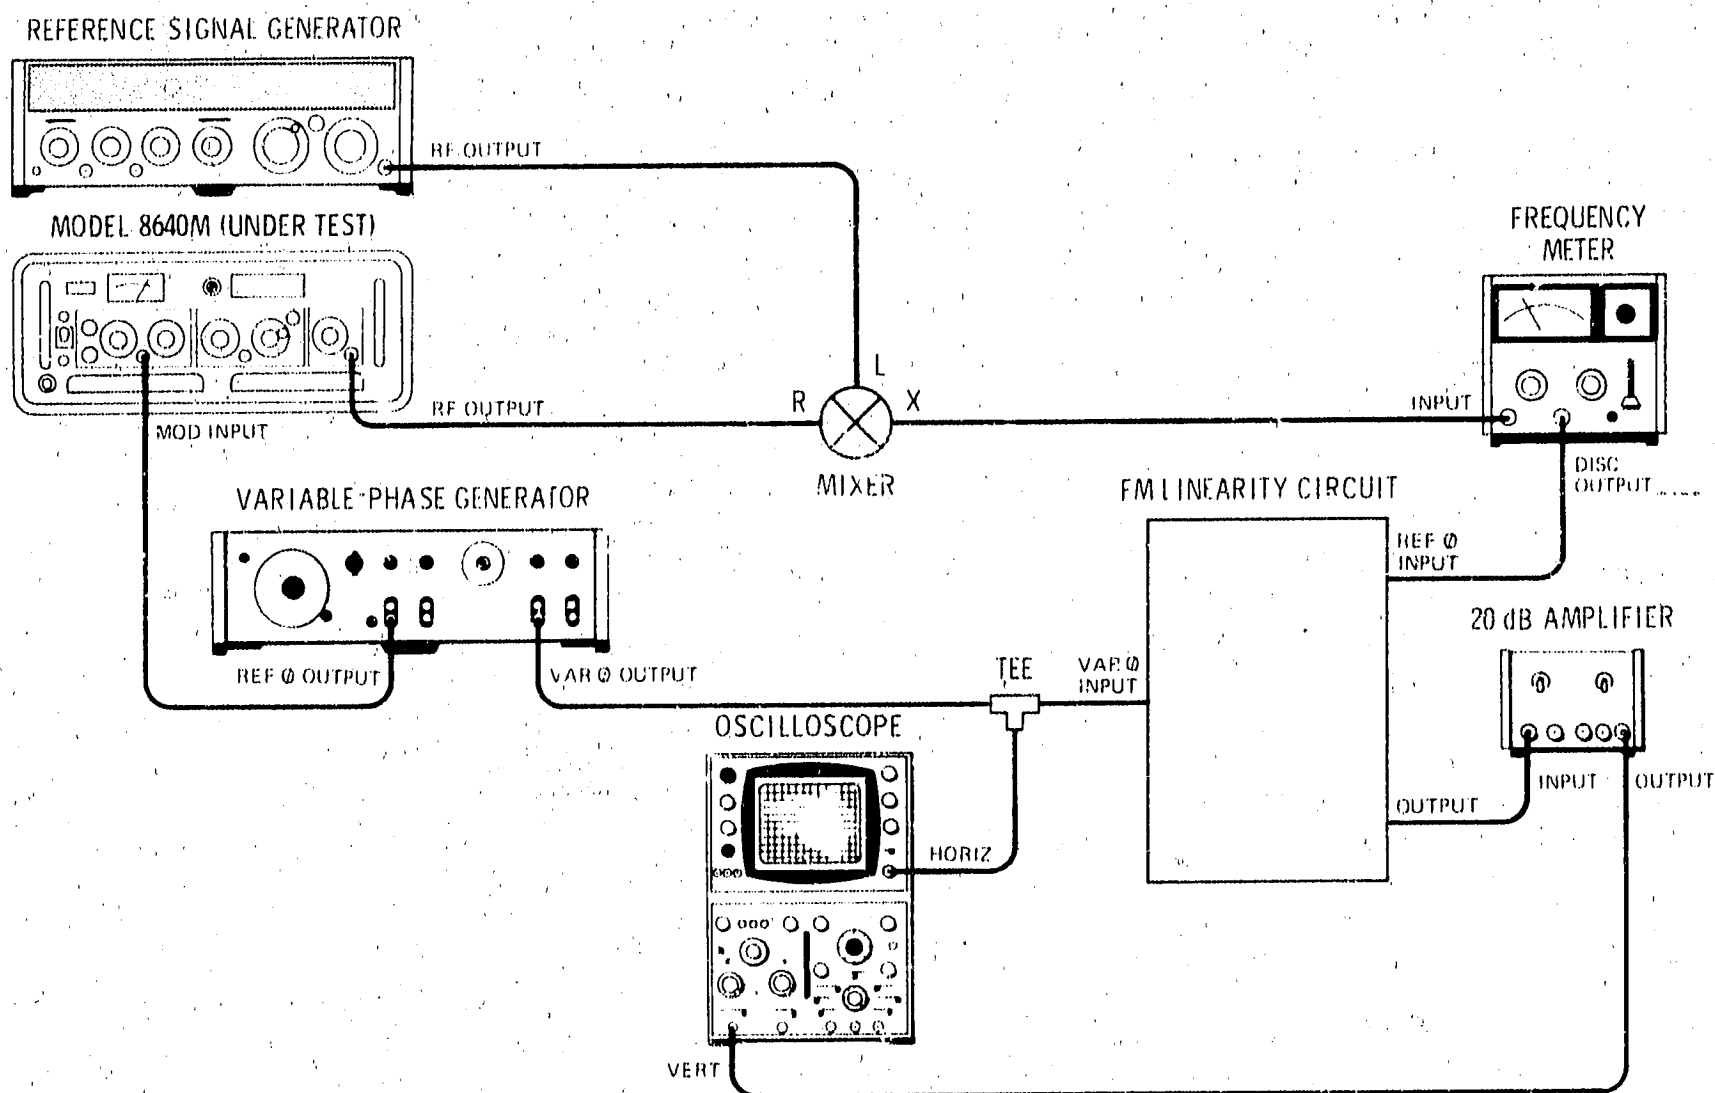

Figure 5-8. FM Linearity Adjustment Test Setup
- PROCEDURE: 1. Connect equipment as shown in Figure 5-8 after setting Signal Generator's controls as follows: